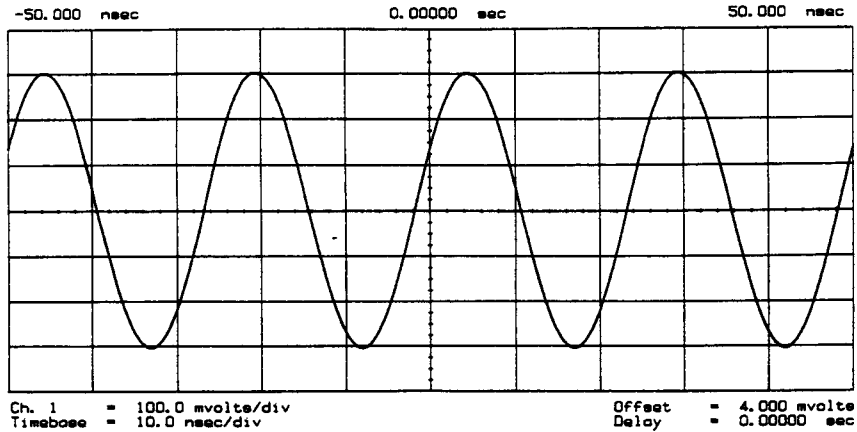

Figure 3. Waveform Integrity in SRC Tune Mode
5. The signal observed on an oscilloscope should be as solid as the signal in Figure 3.